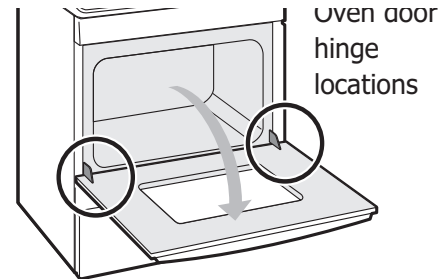

Figure 54: Door hinge location
1. Open oven door completely, horizontal with floor (See Figure 54).
3. Fully open the oven door, horizontal with floor (See Figure 54).